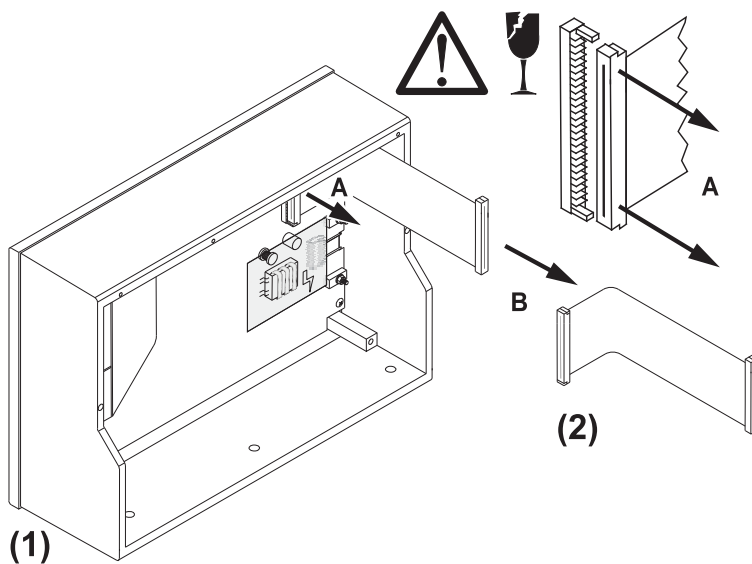

Fig. E 7-5: Removal of the connecting flat cable from the display pcb
- Loose carefully the wide locker (right above on the display pcb) of the other side of the connecting flat cable. Avoid damage of the locker and the connecting flat cable because of canting. Store the cable with the discarded main pcb. (Fig. E 7-5)